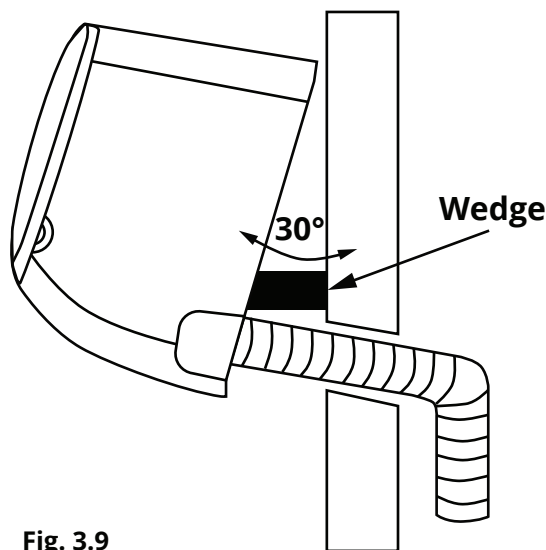

Fig. 3.9
2. Use a bracket or wedge to prop up the unit, giving you enough room to connect the refrigerant piping, signal cable, and drain hose. Refer to **Fig. 3.9** for an example.